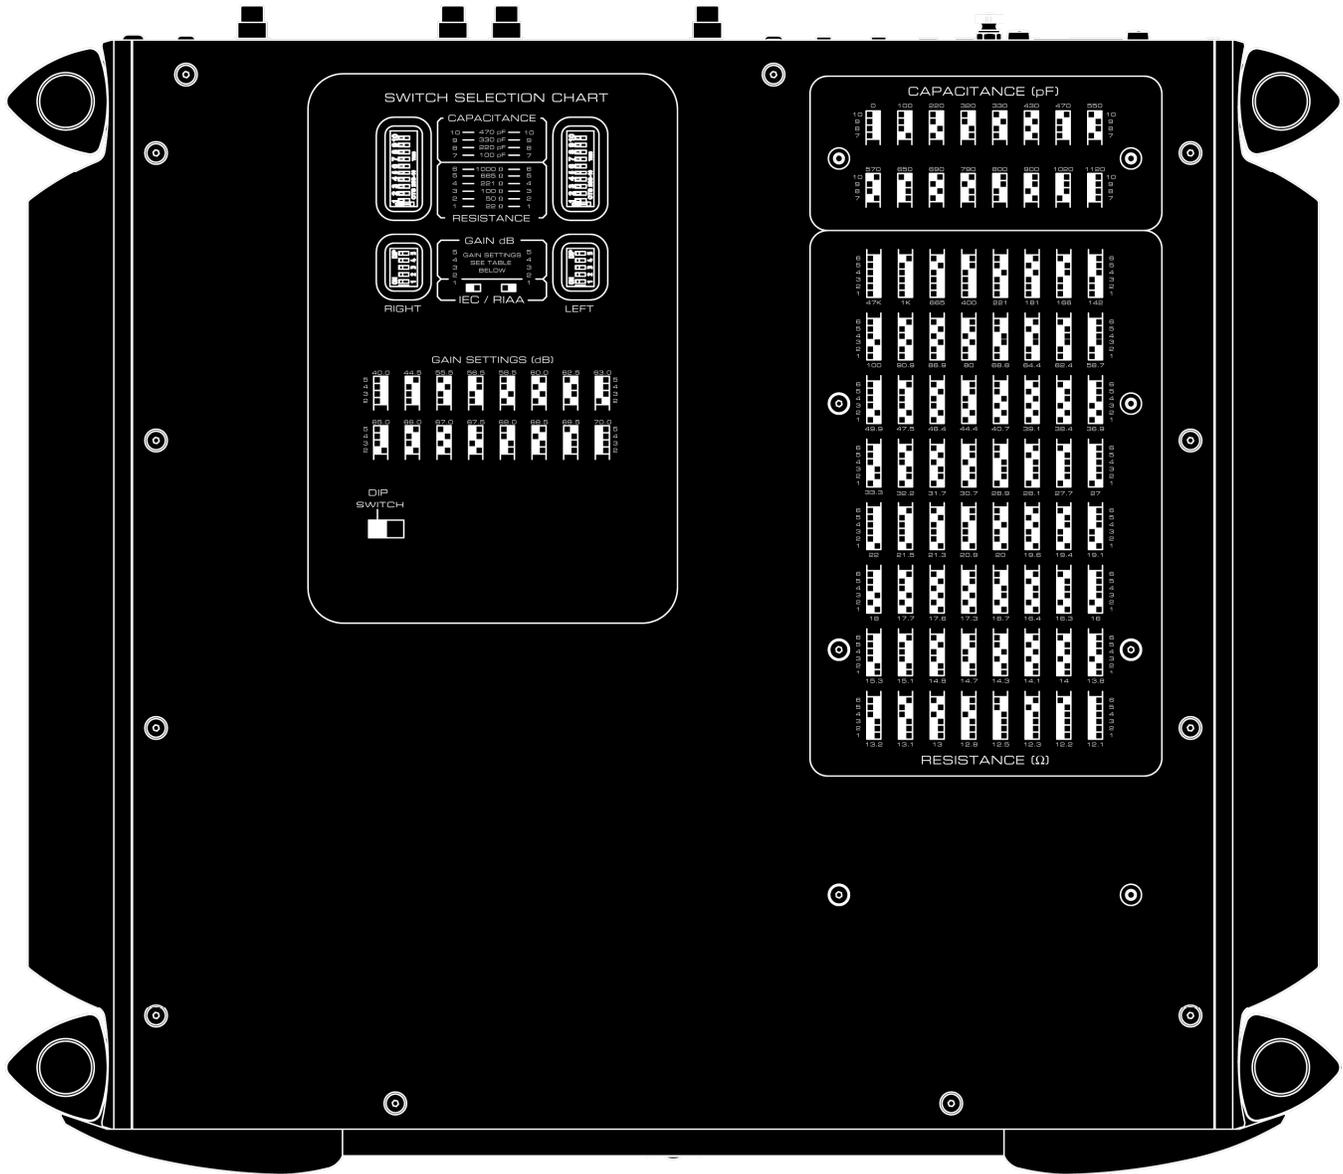

Figure 1: MOON 610LP Bottom Panel layout
Settings for cartridge resistance loading, cartridge capacitance loading, gain and equalization curve are all done using white colored DIP switches located on the **610LP's** bottom panel as shown above in figure 1. There are two (2) banks of DIP switches – The upper bank provides for the capacitance and resistance loading adjustments; the lower bank for gain level and